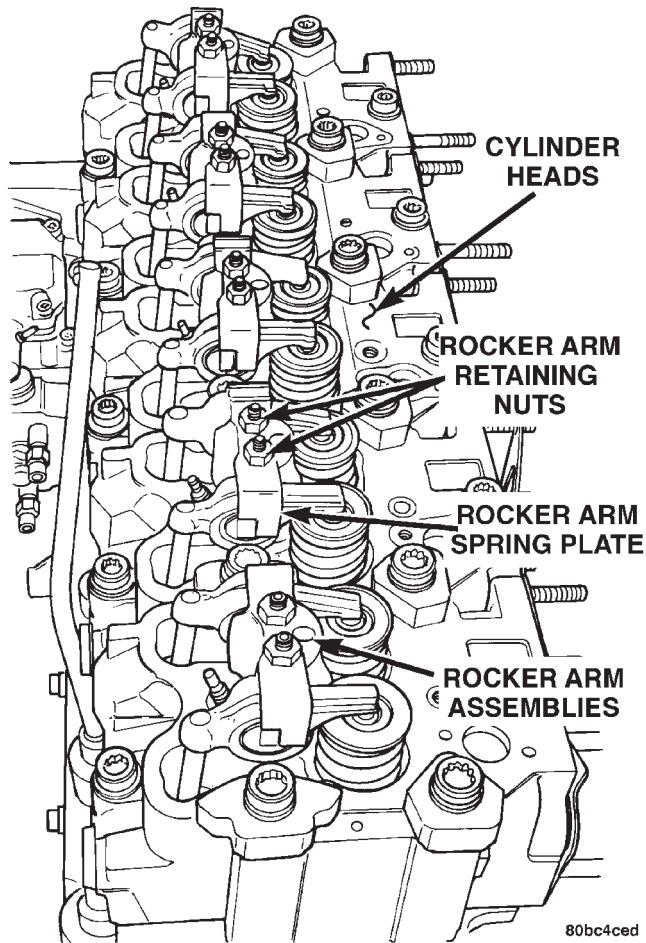

Fig. 71 Rocker Arm Assemblies
(17) Install the push rods. (Fig. 71).
- Install the rocker arm assemblies in the same order as removed (Fig. 71).